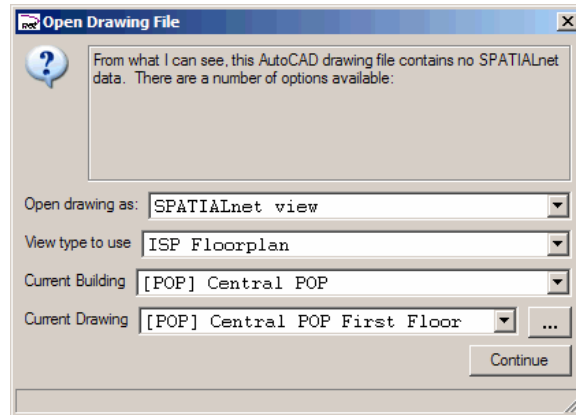

Figure 220 – SPATIALnet Open Drawing File Dialog
5. Select **SPATIALnet view** from the **Open drawing as** pulldown list and make sure the other fields are filled in as shown in Figure 220 above. These fields determine which building and which floor the floorplan will be associated with.